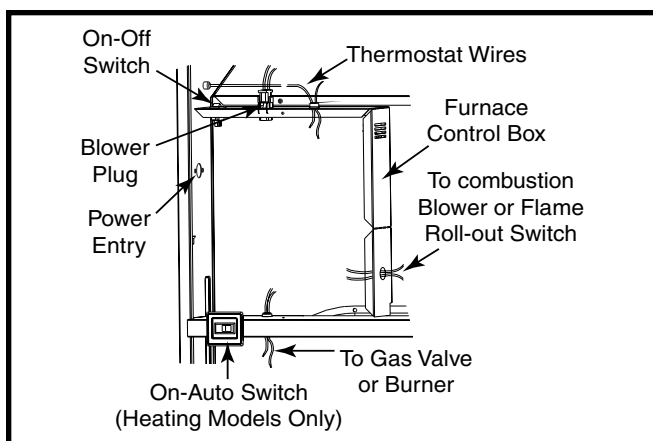

Figure 24. Control Panel (All Models)
Route all electrical wiring to the left side of the furnace. See Figure 24. For installation of A-size cabinet furnaces, allow sufficient slack in the wiring if an optional cooling coil cabinet is added at a later time. **Use of copper conductors is recommended.**
2. Route wires (115 VAC) through the strain relief on the left side of the furnace control box (Figure 24).